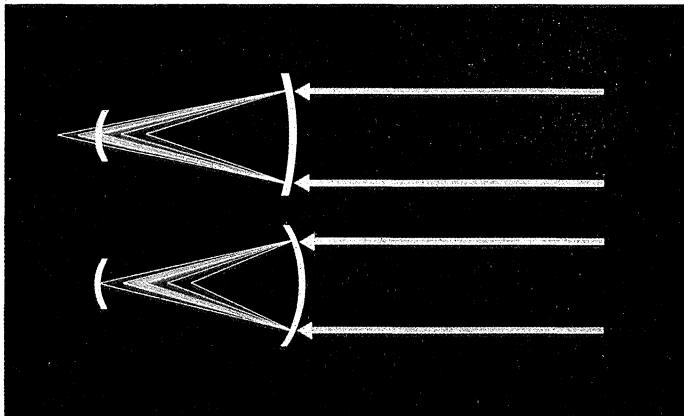

Figure 4. The lens of the human eye accommodated to the middle (green) of the spectrum (top) and to the long wavelength of the spectrum (bottom).
**The Lens:** Let's start with the eye itself. Images are formed on the light sensitive surface of the eye, the *retina*, through the combined action of several sets of muscles which coordinate the aiming of the two eyes and the shape of the lens. From the perspective of color, these two processes, called convergence and accommodation respectively, introduce a first form of color dependence. The lens of the human eye, like any lens, is not color corrected. This means that the wavelength producing specific color sensations will be focused at different distances behind the lens. Figure 4 diagrams the eye in cross section and shows the relative focal points of six colors. The top drawing shows the eye focused such that the middle wavelengths – those producing the sensation of green – fall on the retinal surface. Longer and shorter wavelengths are out of focus imaging either behind or in front of the retina. This means that the eye will have to refocus to see each color sharply in focus. In the lower drawing the lens is accommodated to red. Note the greater curvature of the lens. The end result is the need for constant refocusing as different colors are viewed.
Figure 4. The key labels on the 4105 display identify the top layer of the interface hierarchy: the major tools within the system. Pressing the corresponding key on the 4105 keyboard will select that tool.